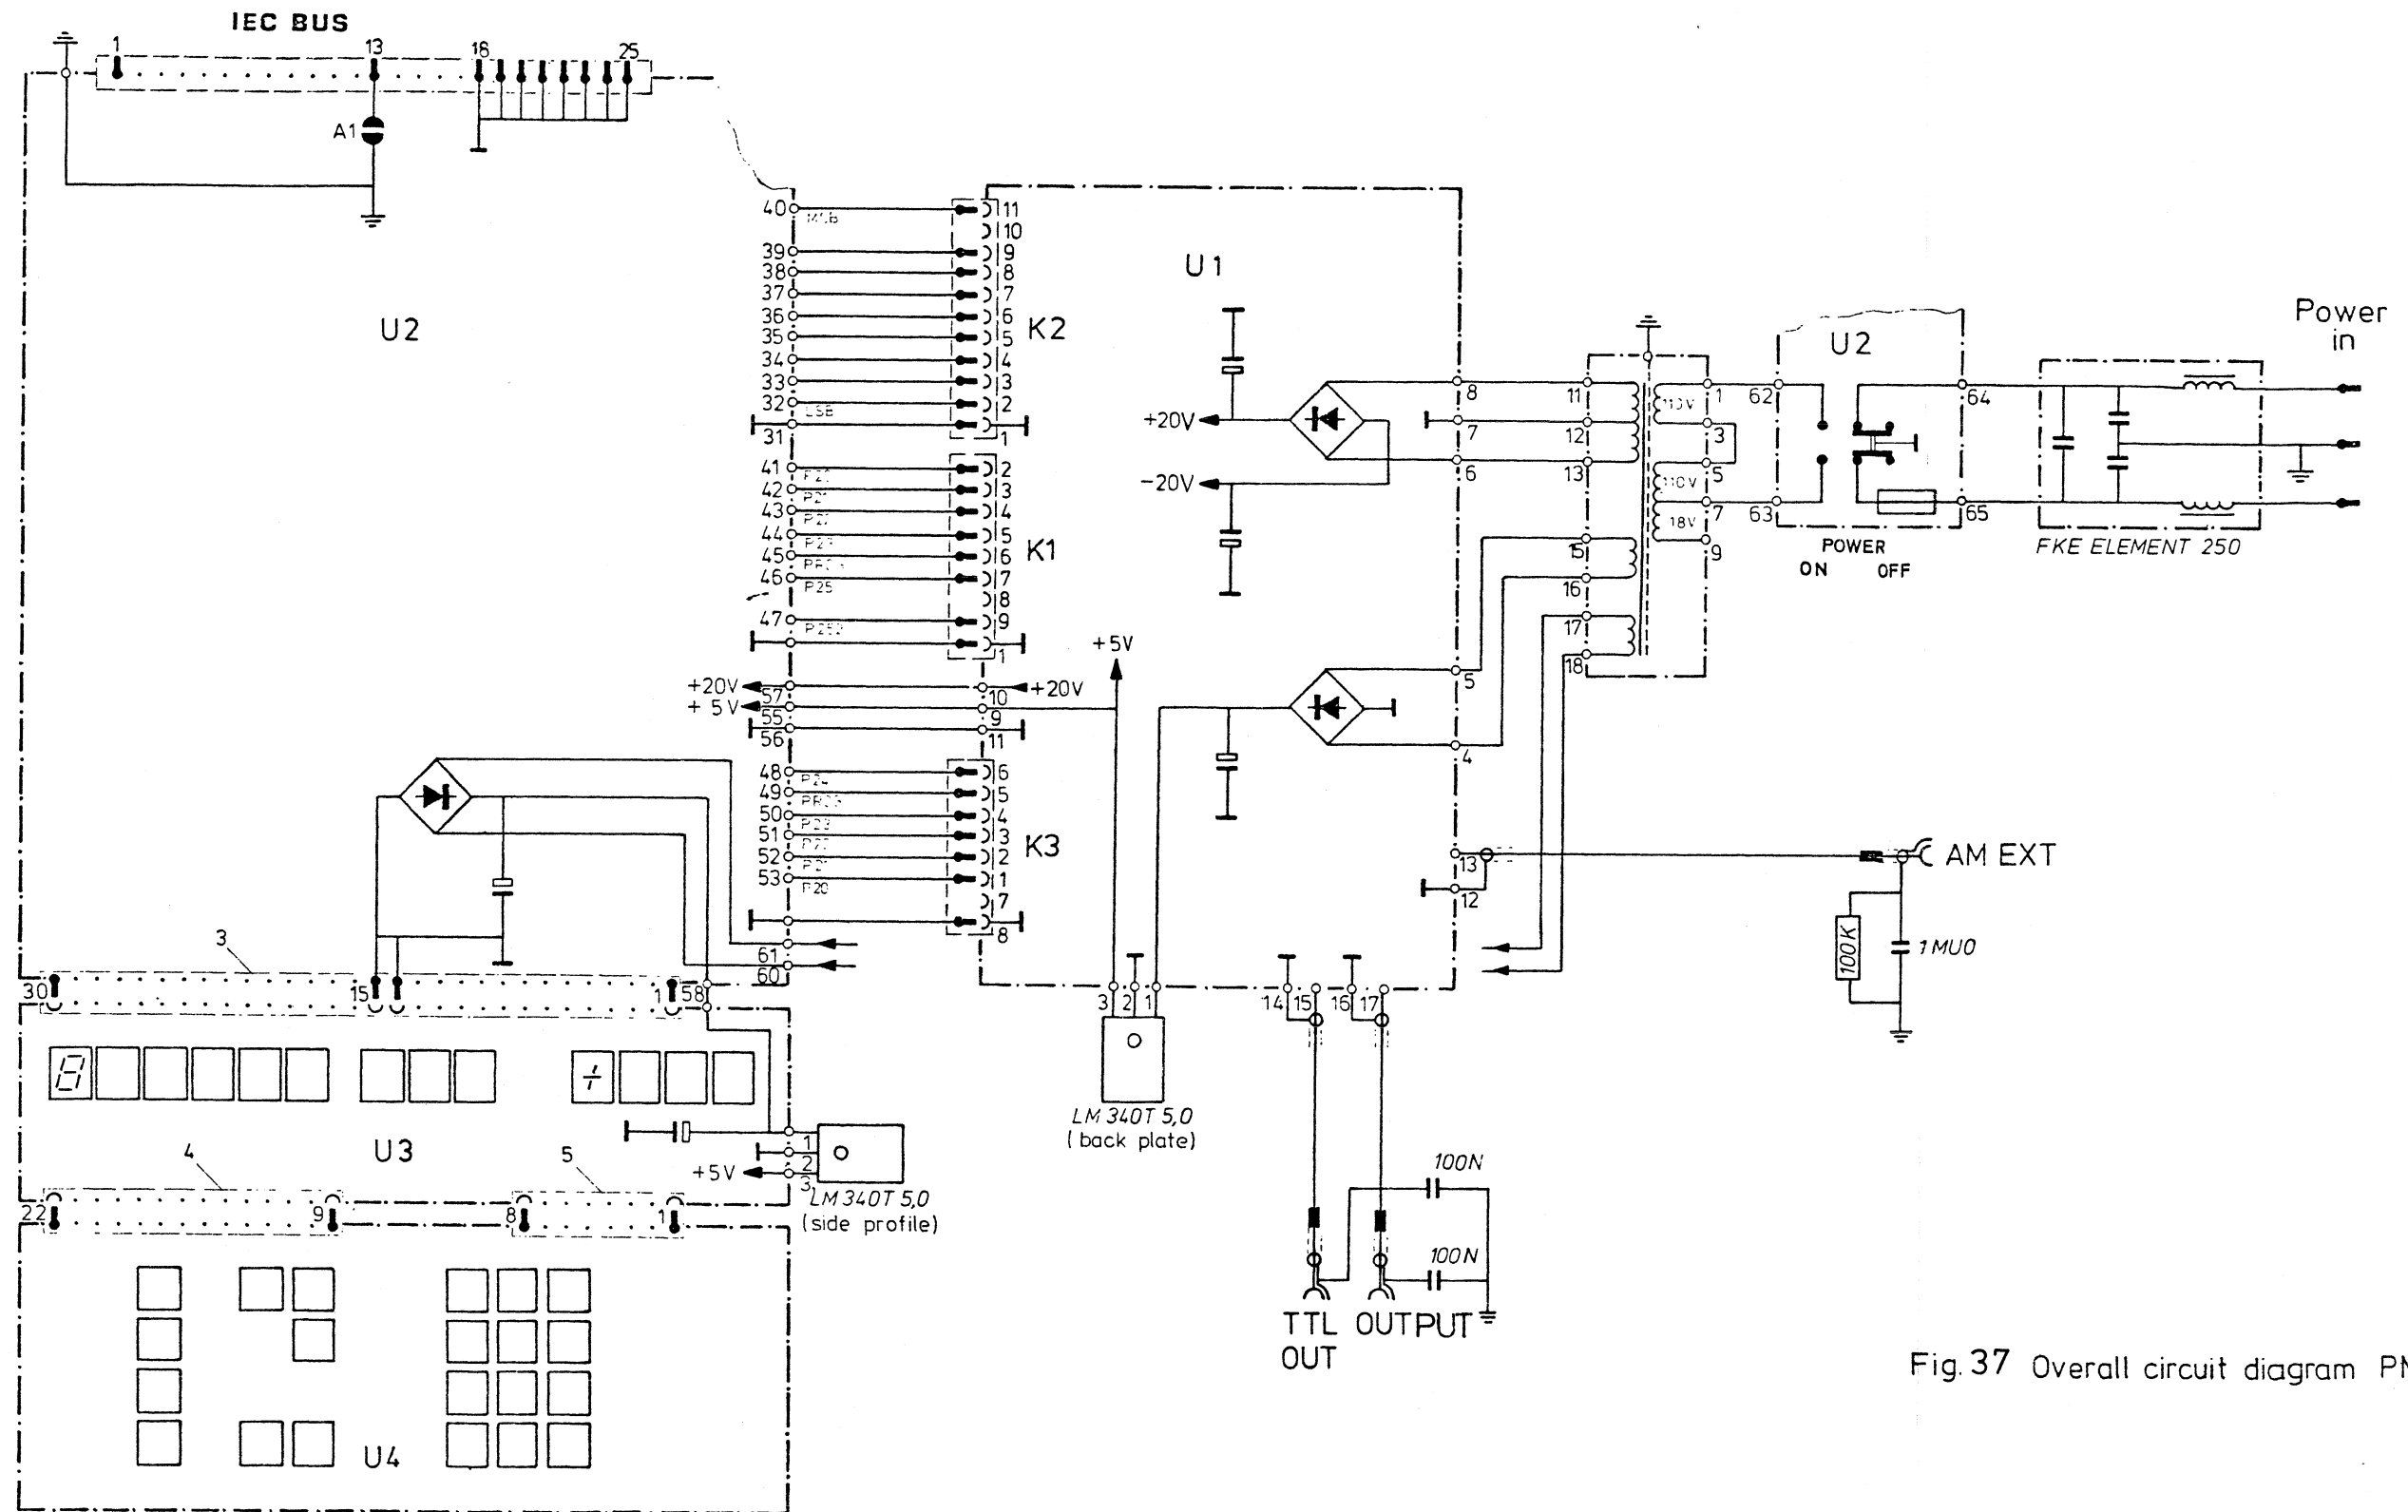

Fig.37 Overall circuit diagram PM 5190
1.2. The mains fuse is now accessible at the rear side of the instrument. The internal fuse on unit 2 is short cut by a link (figs. 37, 44, 45 of the manual).